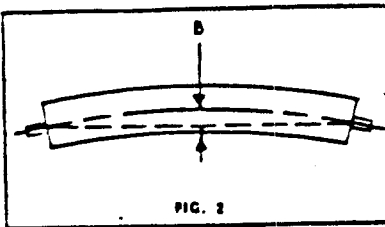

FIG. 2
2. Amount of "bow" in MOUNT HOPE ROLL ("B" in Fig. 2).